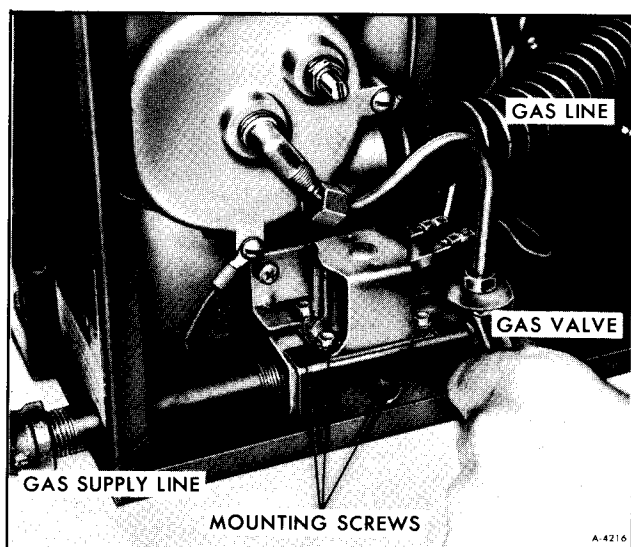

Figure 20—Removing Gas Line from Gas Valve
4. Remove gas line between gas valve and main burner (See figure 20). Disconnect two electrical wires from valve. Be sure to note which terminal each wire is removed from, to aid in proper installation.
1. Referring to Figure 20, connect gas supply line to gas valve.